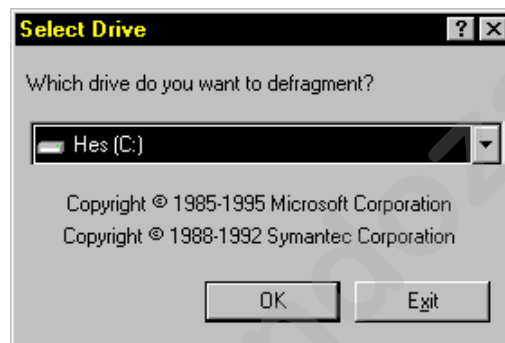

Figure A.27 Select Drive Dialogue Box
1. With Windows 95 running, select the **Disk Defragmenter** item from the **Accessories/System Tools** pop-out menus. This brings up the **Select Drive** dialogue box. Refer to Figure A.27.